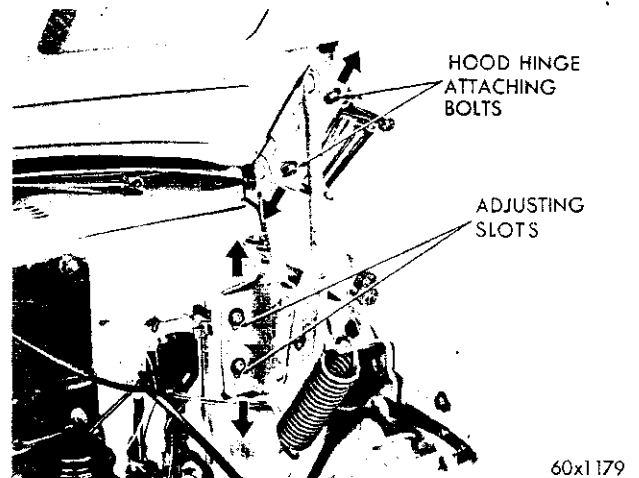

Fig. 17—Hood Hinge Adjustment
Should it become necessary to remove the hood for engine removal and installation. (Refer to Fig. 17.)
The upper hinge mounting stud holes are elongated for forward and rearward hood adjustment (Fig. 17). The hood hinge mounting bolt holes in the dash panel are elongated for up or down adjustment of the hood.
(1) To correct this condition, prop the hood open to relieve tension on the hinge springs.
(2) Loosen the bolts attaching the hood to the hinge plate, move hood rearward until correct spacing has been obtained, then tighten attaching bolts securely and check fit of hood. (Refer to Fig. 17.) When moving the hood forward or rearward, it is suggested that the hood latch adjustment be checked.